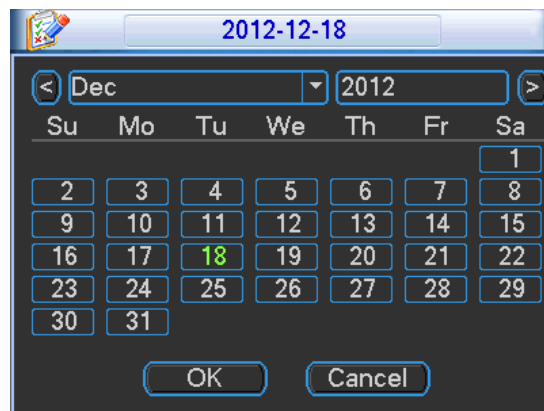

Figure 5-24
- Holiday setting: Click it you can see an interface shown as in Figure 5-24. Here you can set holiday date. Please go to the Holidays Period interface to set the holiday date record setup.